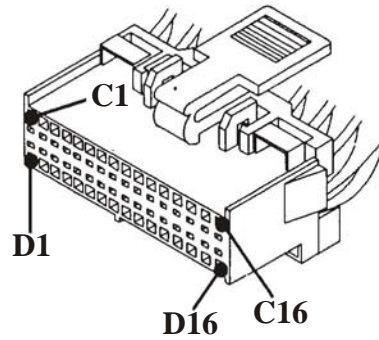
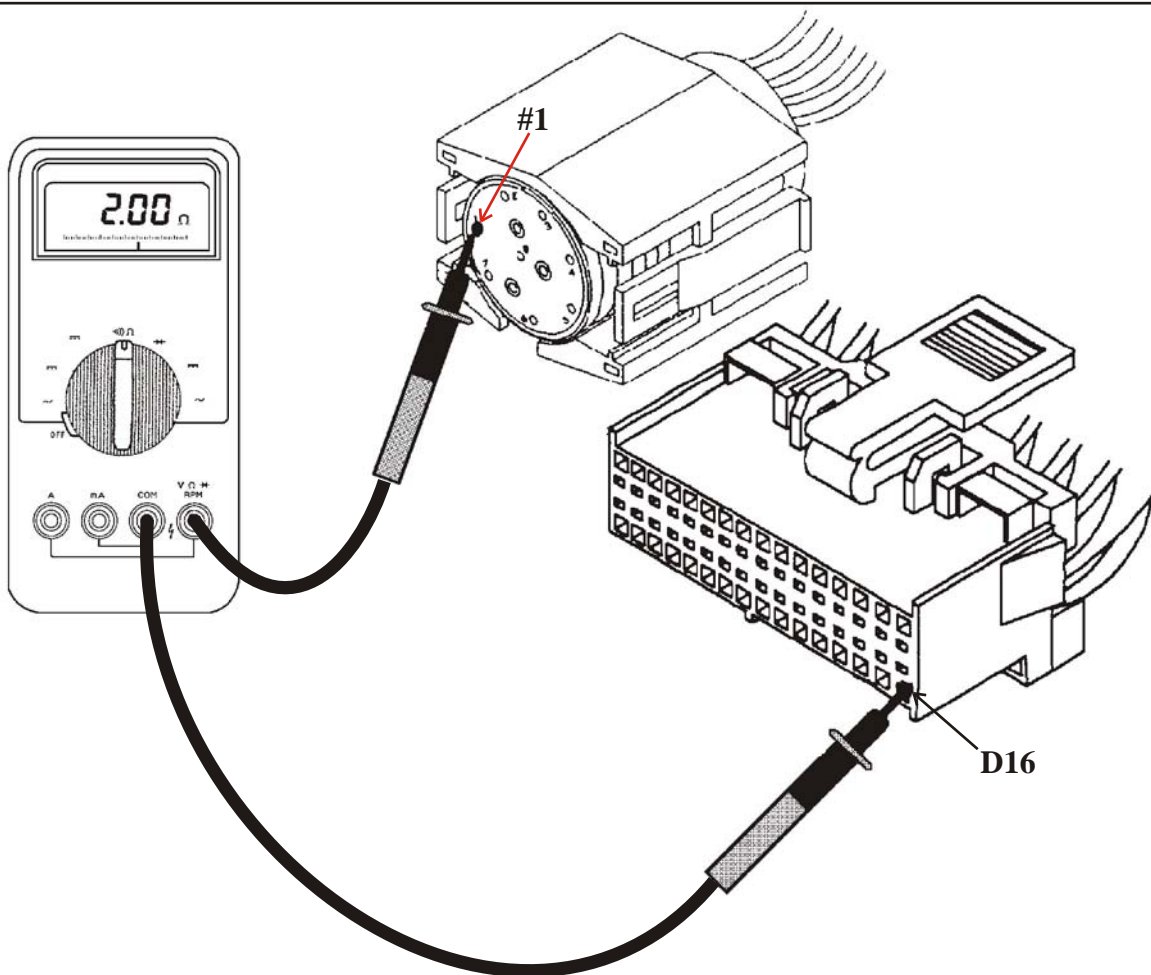

Figure 7
Figure 8
- (b) Locate pin cavity number D16 in the transmission control module connector, as shown in Figure 7. Perform a continuity test between cavity number D16 and pin cavity number 1 in the vehicle harness connector, as shown in Figure 8. There should be 5 ohms or less. If there is an open reading (Infinity), the wire is broken and will need to be repaired. If there is more than 5 ohms resistance observed, there is corrosion somewhere in the wiring, or a short to ground may have occurred, which means the wire will have to be replaced as well. If 5 ohms or less is seen, move on to the next step.